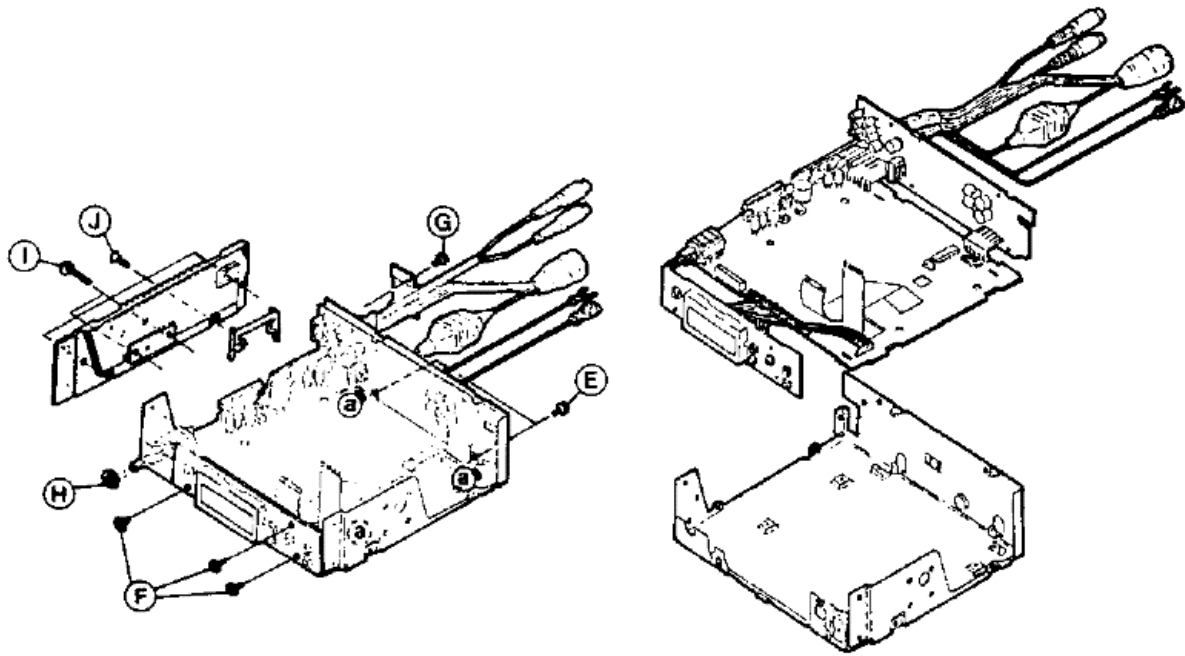

FIGURE 19-42 Remove several components to remove the bottom cover in the underdash CD player.
To remove the PC board, take out nut (H) from the volume control (Fig. 19-42). Remove the two screws (E) that hold the power-supply PC board. Remove the three screws (F) that hold the front PC board. Take out the screws (G) that hold the cord clasper. Remove screw (I) and screw (J), which hold the heatsink.